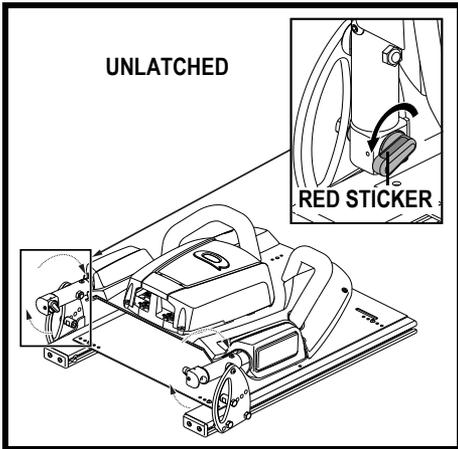

Figure 4. Flip-forward Back Canes (Unlatched)
1. Rotate the release lever on both back canes toward the rear of the seat to unlatch the back canes. See figure 4.